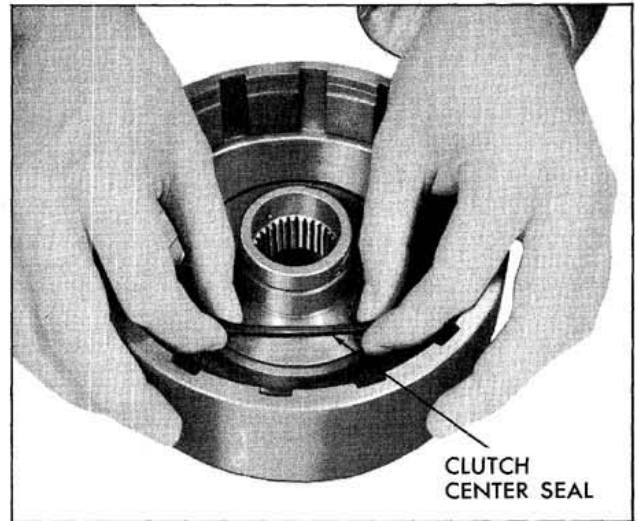

Fig. 6-163 Installing Piston Center Seal
3. Install a new center seal on clutch housing with lip of seal facing up. (Fig. 6-163)